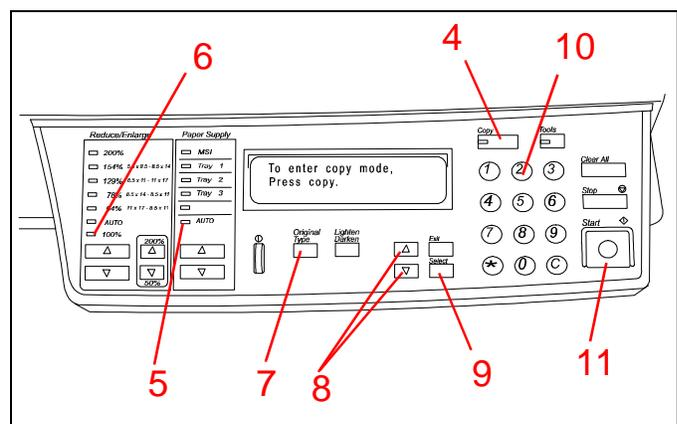

Figure 43
4. See Figure 43. Press the **Copy** button.